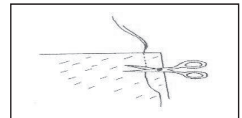

Fig 1
- First sew five or six straight stitches on the end of the fabric to be rolled. (Fig.1)